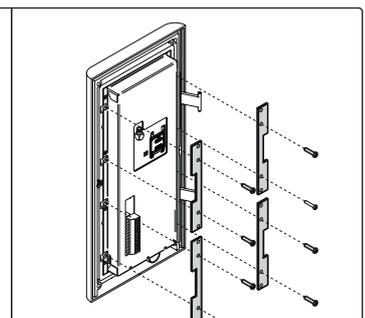

Fig. 27
- Fit the module fixing brackets using the fixing screws as shown in **Fig. 27**.